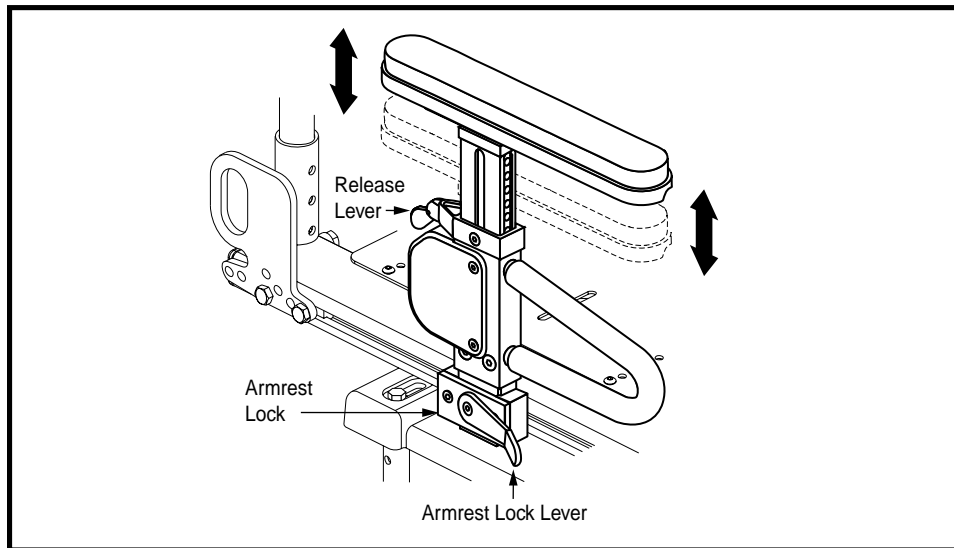

Figure 12. Pediatric Size Armrest Height Adjustment
1. Twist the release lever inward or outward. See figure 12.